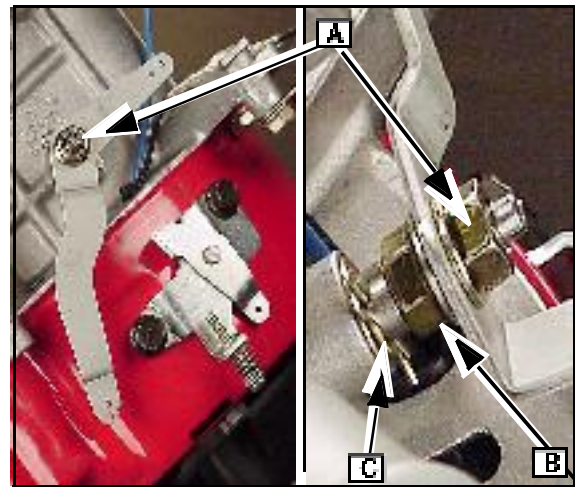

Fig. 9
**NOTE:** Leave the cotter pin ([C] Fig. 9) in the governor shaft to prevent it from falling into the cylinder.
To remove the governor lever for the models listed above, refer to Fig. 9 and follow the steps outlined below: